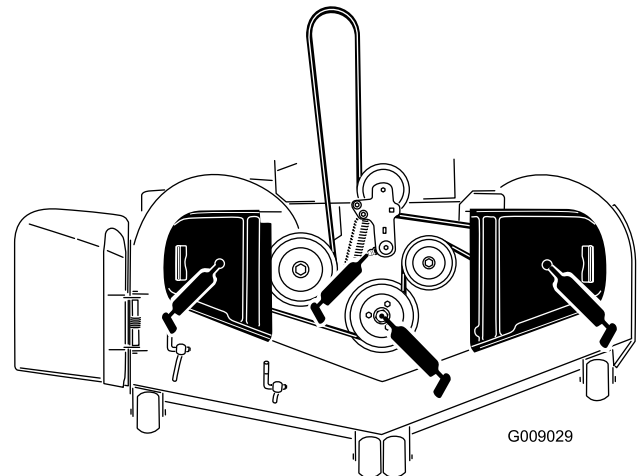

Figure 40
3. Grease the mower deck idler pulley pivot until grease come out the bottom (Figure 40).
4. Grease the three spindle bearings until grease comes out the lower seals (Figure 40).